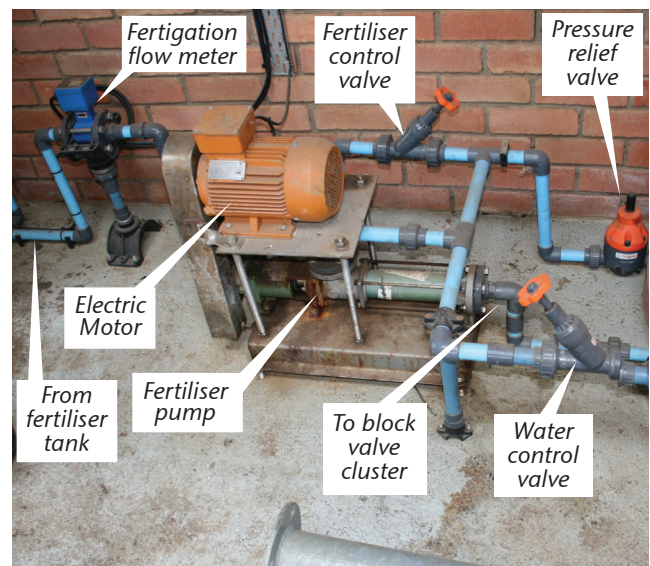

Figure 2. Examples of fixed and mobile active chemical injection systems.
- Active injectors (Figure 2) are most commonly used especially where very accurate injection is required such as with expensive chemicals. Active injectors typically comprise of a pump that injects chemicals into the